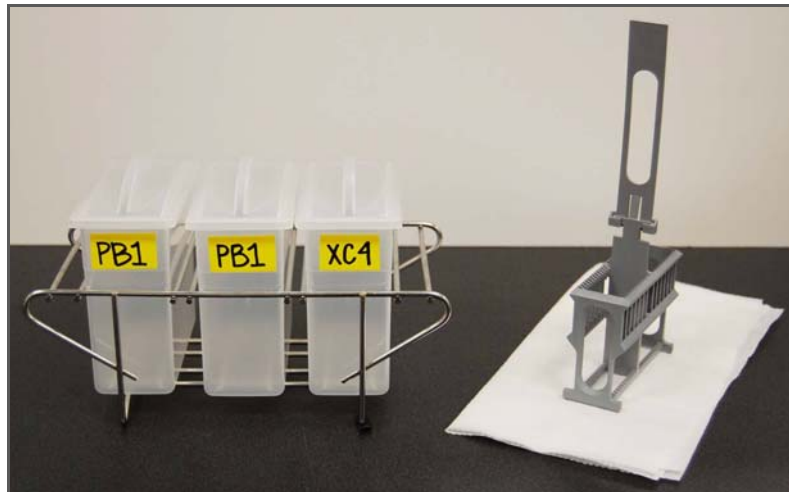

Figure 62 PB1 and XC4 Wash Dishes with Wash Rack
2. Set up three top-loading wash dishes, labeled as shown (Figure 62).